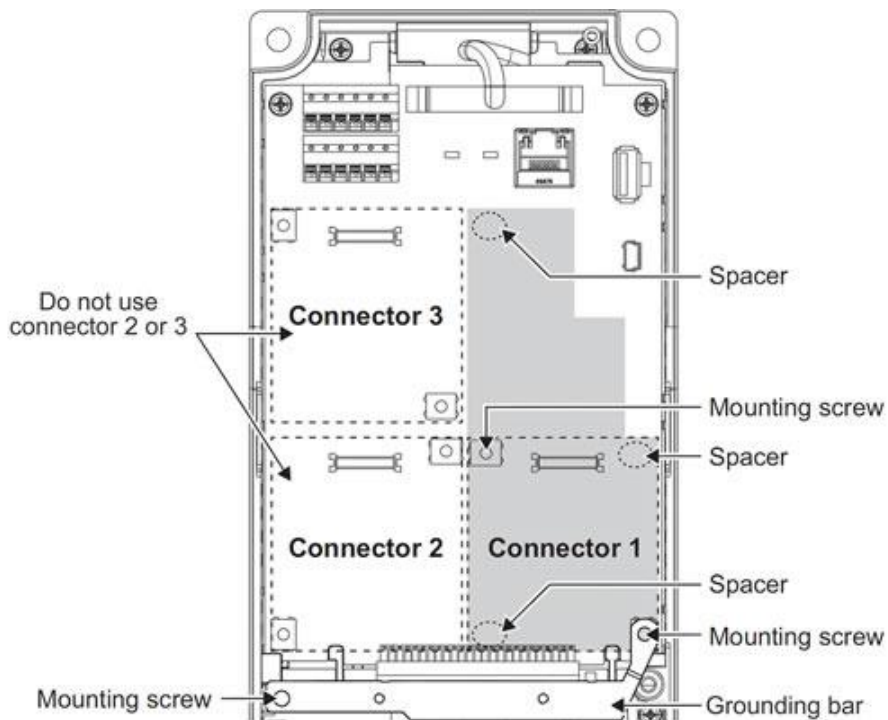

Figure 1: Installation Positions of Screws and Spacers
- 2) Securely attach the option card to the inverter's option Connector 1 (refer to Figure 1 on page 30 for the location of Connector 1 on the inverter's control board). Ensure that the option card is fully seated on the inverter's option connector.
- The plug-in option must only be installed on the inverter control board's option Connector 1 (refer to Figure 1 on page 30.) If installed onto the Connector 2 or Connector 3 positions, the inverter will fault with an E.2 or E.3 fault code.